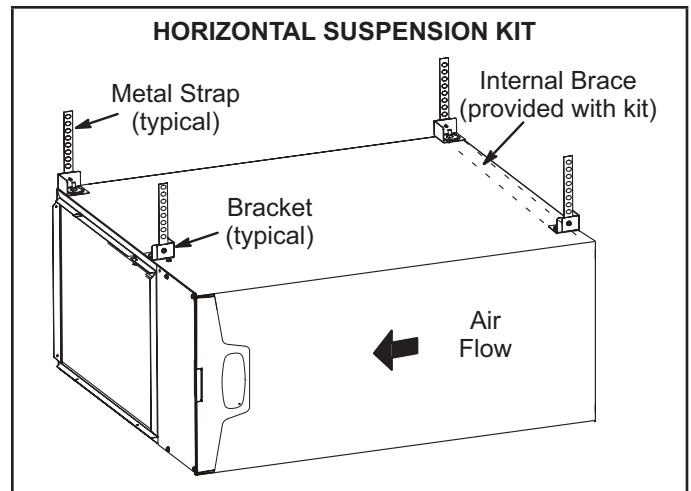
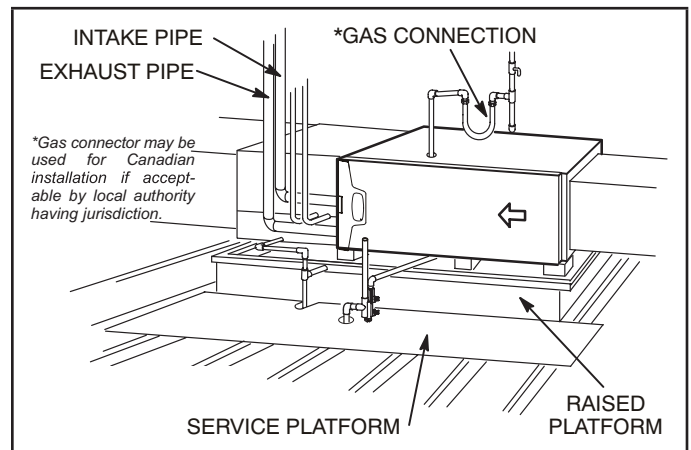

FIGURE 12
FIGURE 13
This furnace may be installed in either an attic or a crawlspace. Either suspend the furnace from roof rafters or floor joists, as shown in FIGURE 12, or install the furnace on a platform, as shown in FIGURE 13. A horizontal suspension kit (51W10) may be ordered from Lennox or use equivalent.
- 2 - Construct a raised wooden frame and cover frame with a plywood sheet. If unit is installed above finished space, install an auxiliary drain pan under unit. Set unit in drain pan as shown in FIGURE 13. Leave 8 inches for service clearance below unit for condensate trap.